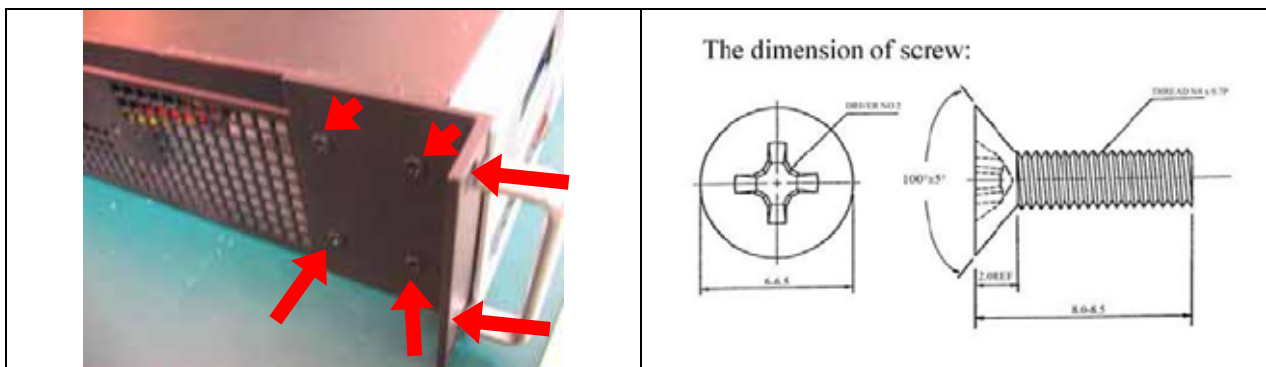

Fig.2-13 Fasten the screws to the side
2. Placing the side with four holes against the chassis and the side with two holes face outward. (**Fig. 2-13**)
3. Fasten four screws on each side (**Fig. 2-13**)